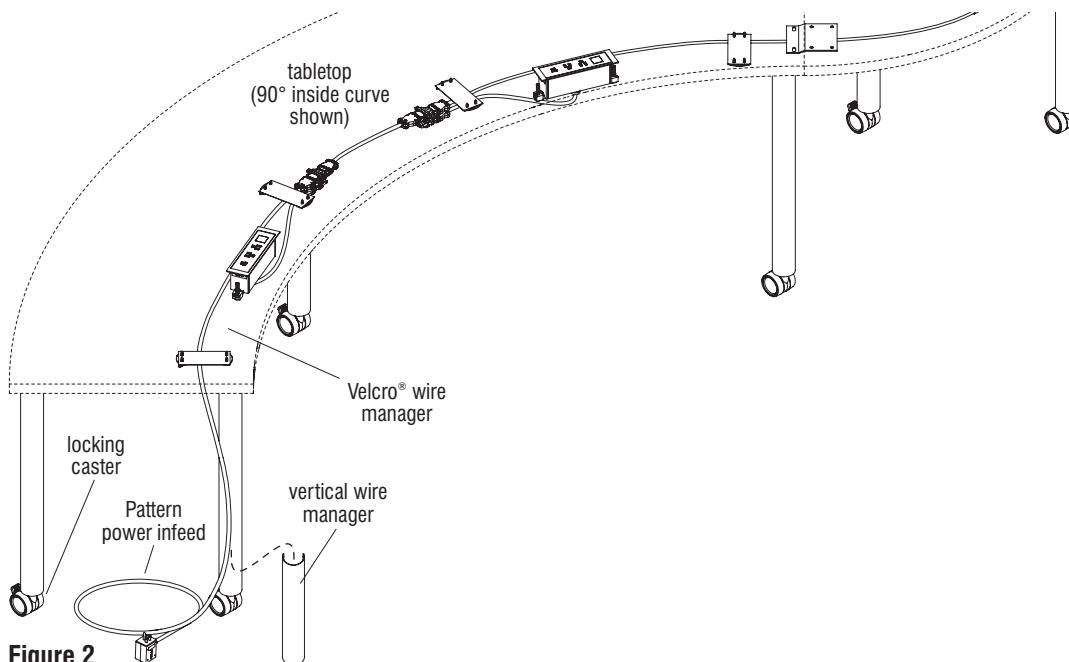

Figure 2
1. Route the plug end of the power module or Pattern power infeed cord to the post leg closest to the desired power source location. Route the cord along the leg, then snap the vertical wire manager to the leg with the cord in between (Figure 2).